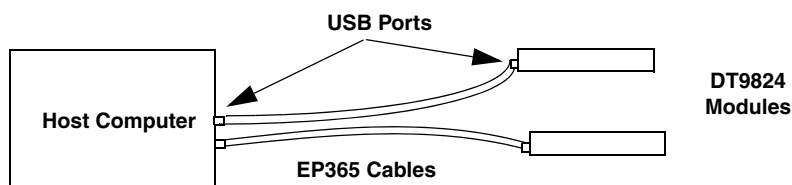

Figure 3: Attaching the DT9824 Module Directly to the Host Computer
2. Attach the other end of the EP365 cable to one of the USB ports on the host computer, as shown in Figure 3.